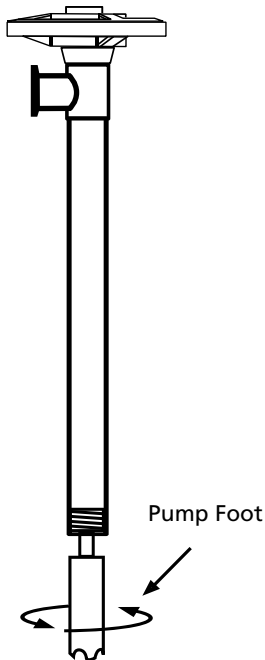

Figure 1
3. Remove the pump foot. (see Figure 1)